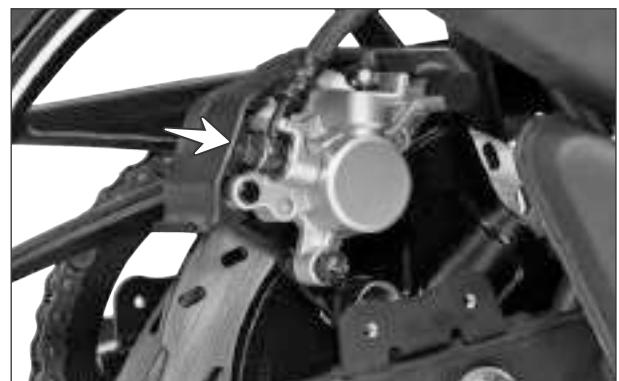

Fig. 6.112
- Remove banjo bolt and take out the gaskets. (Fig. 6.112)